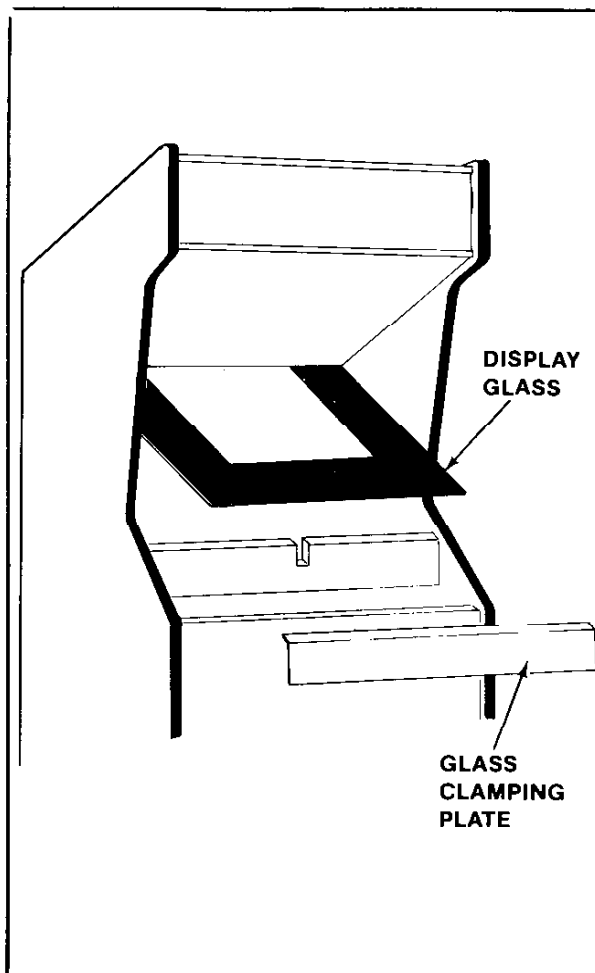

Figure 3-3 Removing the Main-Display-Glass & T.V. Bezel
- Turn the power to the game off and remove the screws which secure the glass clamping plate in position. See Figure 3-3.